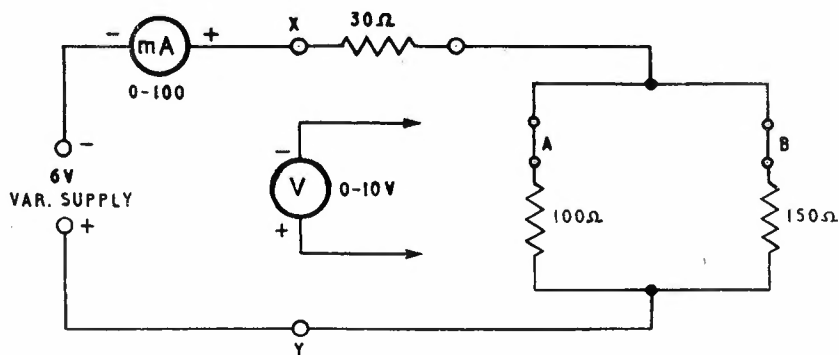

FIG. 1.
STEP 1. Connect circuit as shown in Fig. 1.